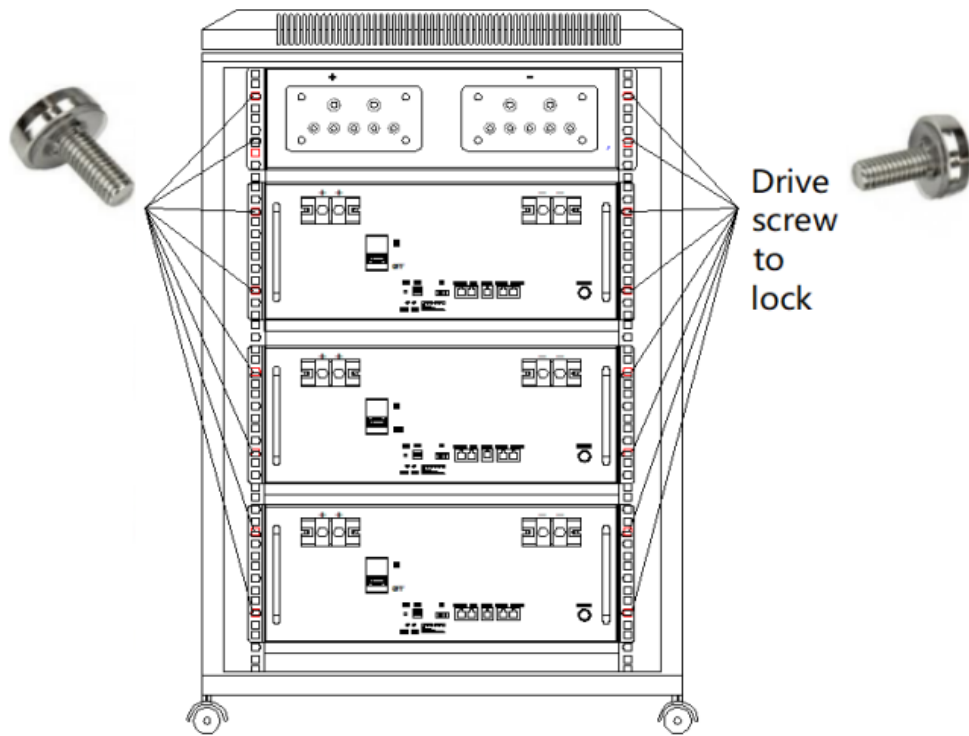

Figure 5.
Step 4: As shown in the below, install the battery pack. The pack is too heavy, please use a special lifting device to lift the pack for operation and safety protection. Put the battery module into the cabinet and screw it, as shown in Figure 5.